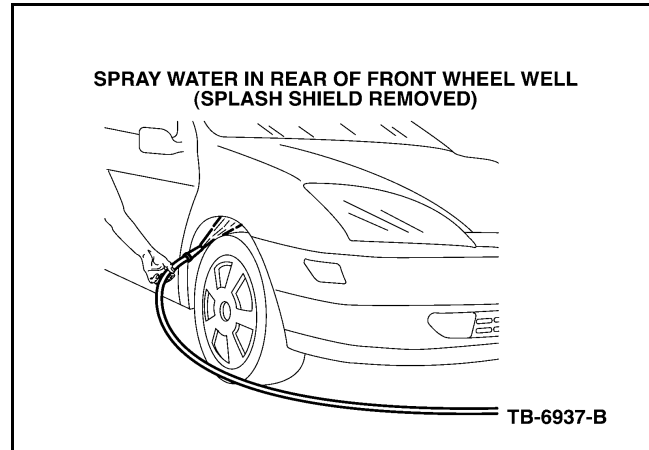

Figure 3 - Article 05-13-3
3. Remove right front inner splash shield and direct water into the back of the right front wheel well area (Figure 3). Refer to Workshop Manual, Section 501-02.